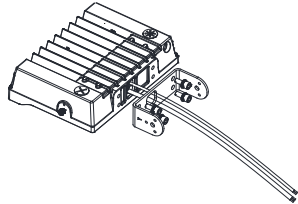
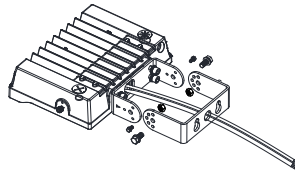

figure 2.3
figure 2.4
Step 2: Run the glue wire through the hole in the mounting bracket and secure the fixture and bracket with an inner hexagon screw (Watch out not to scratch the glue wire) (Figure 2.3), Tighten the other bracket with screws.(figure 2.4)